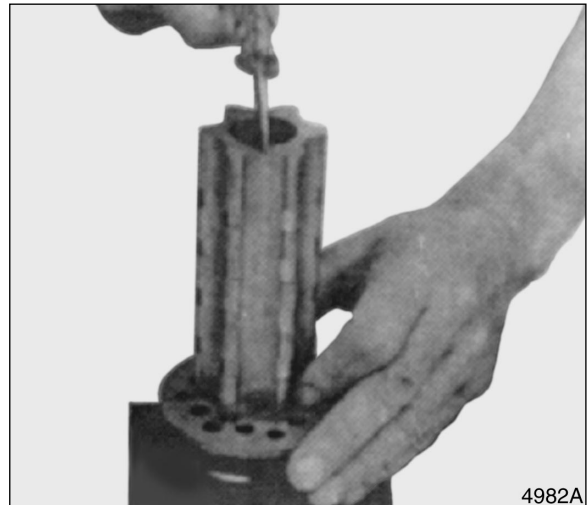

Figure 52
22. Position rotor so that cross pin is between two teeth as shown by position of screwdriver. See Figure 52.